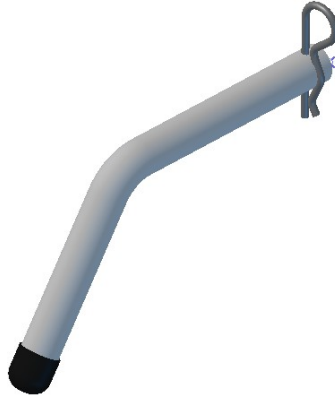

Figure 4 – Illustrated view of Push Pin Rod & Unattached Hitch Pin for Ramp Stand Height Adjustment
- (Qty: 4) 7/8"-dia aluminum push pin rod for ramp stand height adjustment, w/ hitch pins, depicted in Fig. 4: